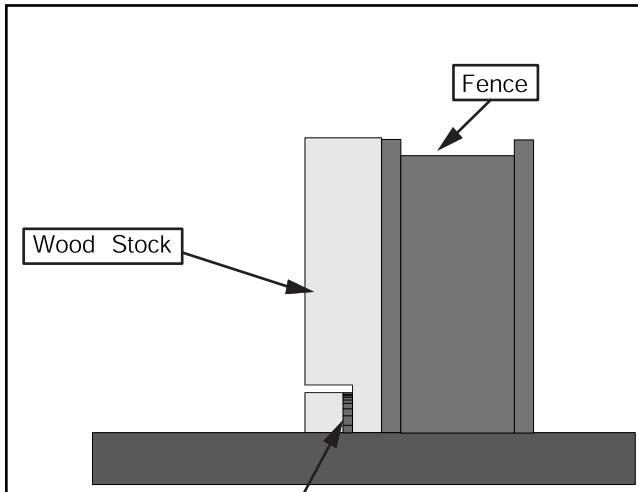

Figure 57. Rabbet cutting.
Commonly used in furniture joinery, a dado is a straight channel cut in the face of the workpiece. Dadoes can be cut using either a dado blade (Figure 57) or a standard saw blade.
7. Rotate the workpiece as shown in **Figure 57**.